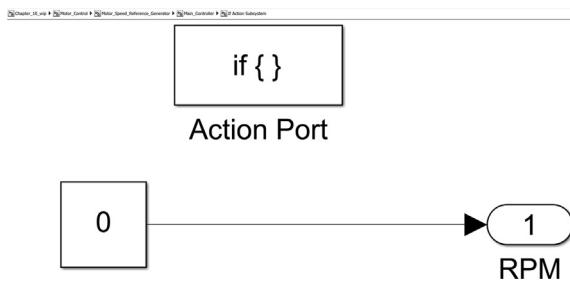

Figure 10.23 Inside the first If action subsystem block.
- 9. Now, the logic for each subsystem can be put in place. Go inside the **If action subsystem** block for the $u1==0$ and $u2>60$ and connect a **Constant** block of 0 to the RPM output as shown in Fig. 10.23